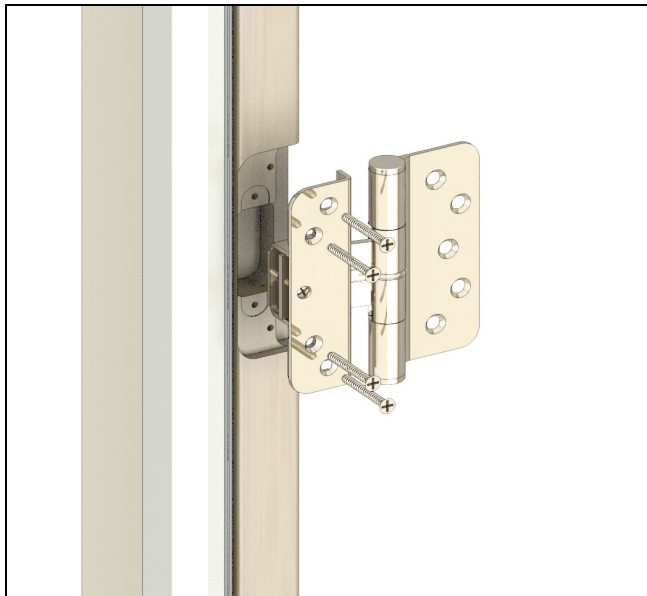

Figure 28
1. Insert jamb hinges into routs located on the panel. Use #8 X 1-1/2" screws to secure the hinge to the panel. See Figure 28. Repeat for all hinges.